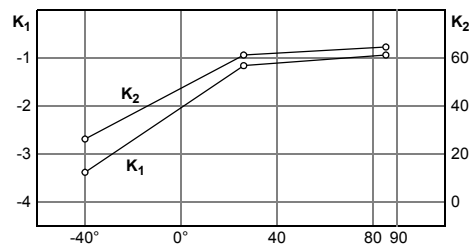

FIGURE 4. K1 AND K2 FOR USE IN EQUATION (1.3)
It can be seen from Eq. (1) that the MOSFET channel resistance is inversely proportional to VGS. Since the source of the transistor is connected to the wiper terminal (which can have a varying voltage), the gate voltage of the wiper transistor in an XDCP must be maintained at a high enough voltage to guarantee operation in the triode region. Internally, this is accomplished with another charge pump (which generates between 10V and 18V depending on tap position and device). With appropriate substitutions, this resistance can be estimated from Eq. (3) with VW as the wiper voltage in volts and T in degrees Celsius, using the parameters from the chart in Figure 4 of this note.